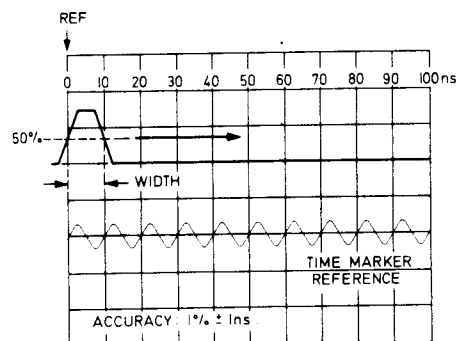

FIGURE 4-12 WIDTH MEASUREMENTS
4. Set pulse generator delay and oscilloscope position so that the 50% line of amplitude and horizontal crossing of sinewave are coincident (figure 4-12).